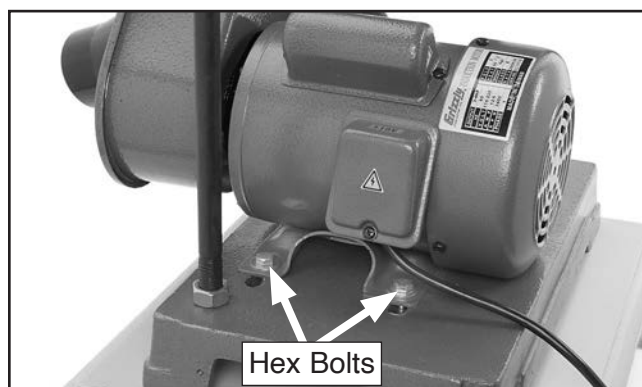

Figure 88. Rear motor mounting bolts.
6. Loosen the (4) hex bolts that secure the motor to the base, as shown in **Figures 88–89**, then slide the motor toward the back of the sander to reduce belt tension or slide it toward the front of the sander to increase tension.
3. Loosen the (4) hex bolts that secure the motor to the base, as shown in **Figures 88–89 on Page 49**, then slide the motor toward the back of the sander to reduce belt tension.
5. Slide the motor toward the front of the sander, then tighten the (4) hex bolts on the motor base.